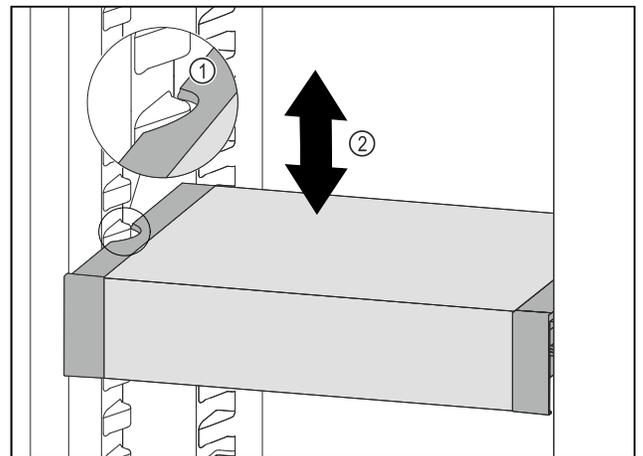

Fig. 104
- ▶ Pull VarioSafe forwards until the recesses in the side of the VarioSafe are at the level of the support rib in the refrigerator compartment. *Fig. 104 (1)*
- ▶ Move VarioSafe up or down in the refrigerator compartment until the desired height is reached. *Fig. 104 (2)*